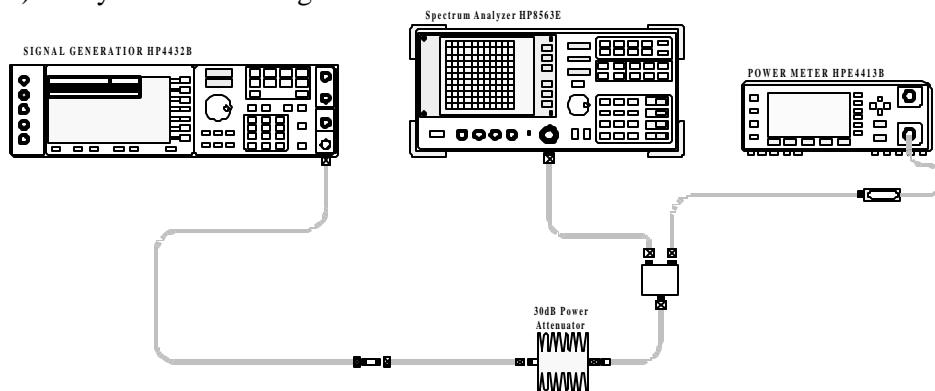

Figure 6 Spectrum Analyzer Calibration Configuration for Forward Link
6) Set System as follow Figure 6.